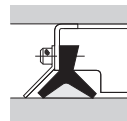

Fig.2 Reinforced wiper
- (3) If the unit is in a location exposed to cutting chips or welding spatter, it must be protected with an accordion-type or telescoping dust cover or the like, or equipped with a wiper reinforced with a metal plate, as shown in Fig.2.